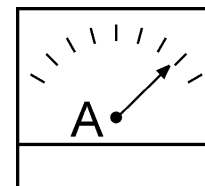

Figure 49. Ammeter (Load)
13. Observe the generator's ammeter (Figure 49) and verify it reads the anticipated amount of current with respect to the load. The ammeter will only display a current reading if a load is in use.